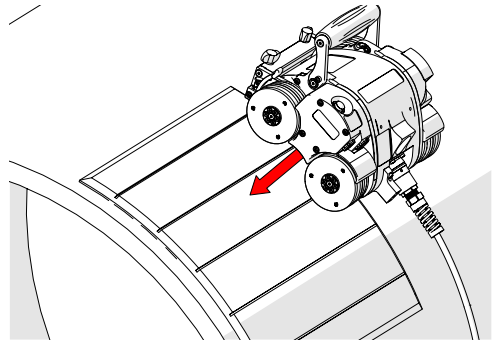

Fig. 201 - Lower crawler to mat
6. Place and hold the crawler on the installation/removal mat (Fig. 201).